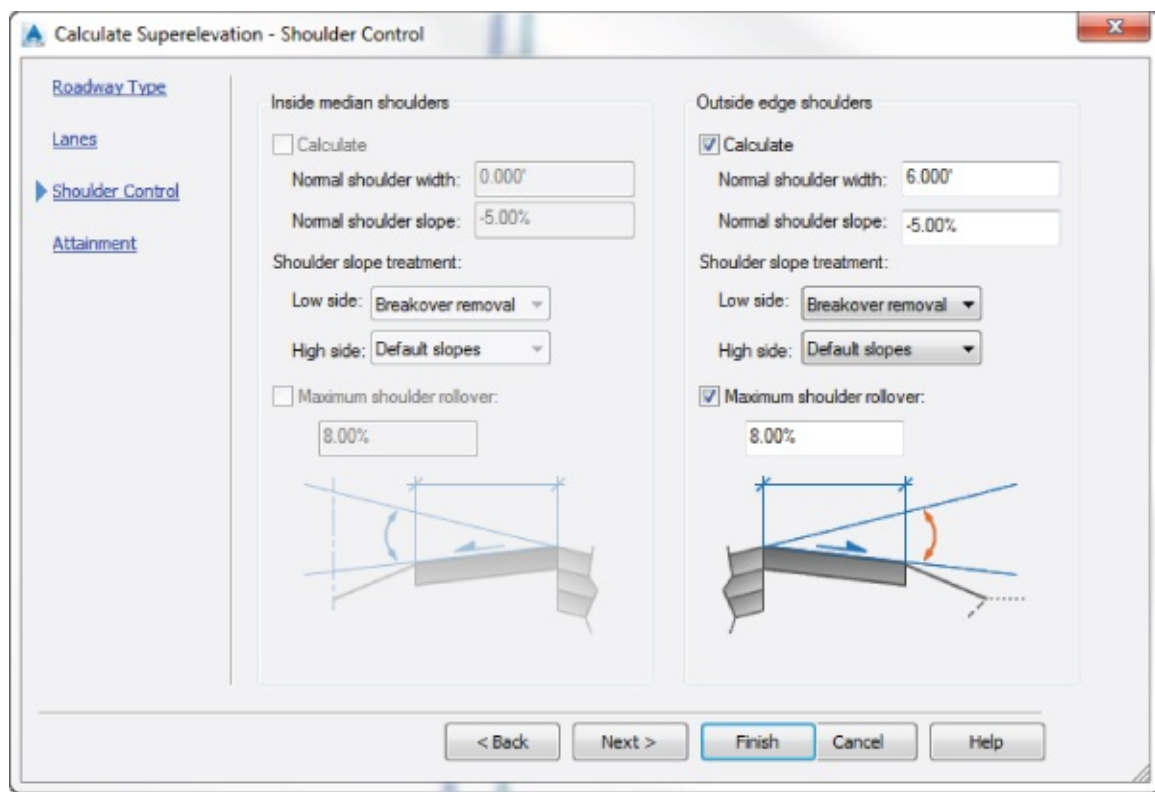

Figure 11.15 Shoulder Control and Breakover Removal parameters
- Your Shoulder Control screen should look like Figure 11.15.